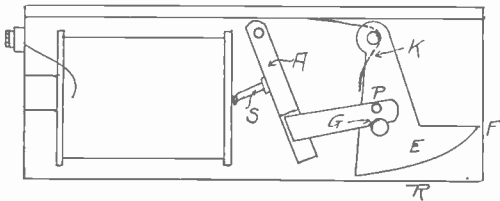
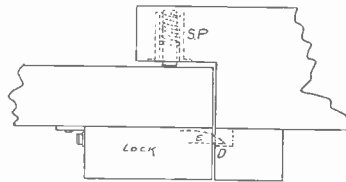

FIG. 2. MAGNETIC RELEASE LOCK—PLAN
FIG. 3. SPRING PUSH
(PB), energizes the core of the magnets, (MM), attracting the soft iron armature, (A). This pull is just strong enough to overcome the tension of the spring, (S). Referring to Fig. 2, (G) is released, and (E) may be pushed back against the force exerted by spring, (K), the release arm (A) being pivoted at (P). In Fig. 3 is shown a spring plunger, (SP). As soon as (E) is released by operating the push button (PB), the spring plunger (SP) pushes the door (E) back along (D), allowing one to pull the
door open. These locks are made with the catch (E) extending, as in Fig. 3, or as in Fig. 2, flush with the edge (F) and open
If the lock is placed on the door, Fig. 3, and the wires concealed in the woodwork, two sliding contacts should be placed at the upper hinged corner of the door.